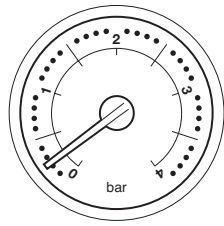

Fig. 1
4. The normal operating water pressure must be at least 0.2 bar (Fig. 1) for the boiler to operate. If the pressure exceeds 3 bar the safety pressure valve will operate and a fault is indicated. Contact your installer.